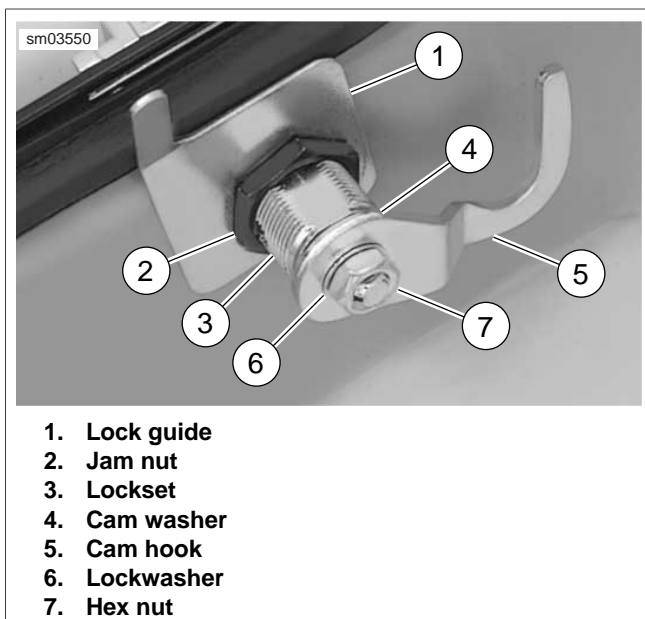

Figure 2-9. Lockset Assembly
1. At inside of saddlebag lid, remove hex nut, internal tooth lockwasher, cam hook and cam washer. Remove jam nut and lock guide. See Figure 2-9.
2. Install lock guide over threaded body of lockset oriented with finger on inboard side of saddlebag lid and pointing toward bottom. See Figure 2-9.